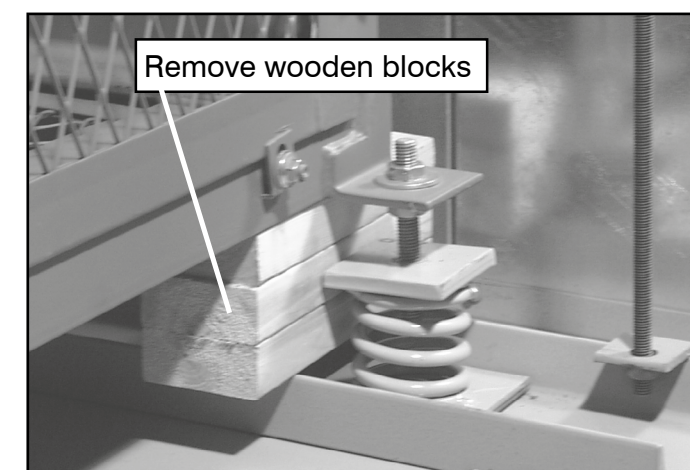

FIGURE 25. Fan shipping restraints located at the base of the fan.
- C) Remove wooden blocks and discard all shipping restraints (See **FIGURE 25**).